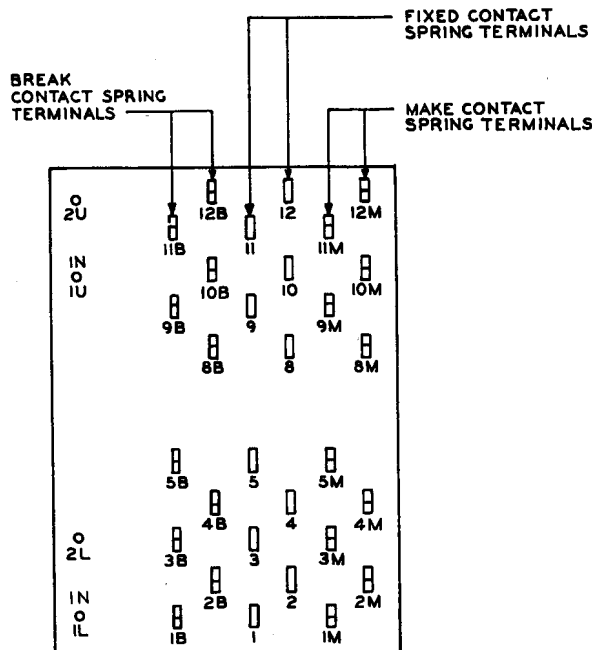

Fig. 13 - Winding and Spring Terminal Arrangement as Viewed From the Rear (terminal side) — AK- and AM-Type Relays
**2.30 Spring Terminals (rear view):** If the relay has a full complement of springs there are six vertical rows of five terminals each as shown in Fig. 13. Starting from the right, the first pair of rows is for the make springs, the second pair for the fixed springs, and the third pair for the break springs. The left row of terminals in each pair is odd-numbered from 1 to 11 starting at the bottom and omitting number 7. The right row of terminals in each pair is even-numbered from 2 to 12 starting at the bottom and omitting number 6. The terminals for make and break springs have the suffix M and B, respectively. The terminal rows for the make and break springs may have less than five terminals. The terminals provided in these rows are numbered the same as if the relay were equipped with a full complement of make or break springs. Identification of make or break springs may be facilitated by reference to fixed spring terminals, since all terminals in the same horizontal row have the same number.